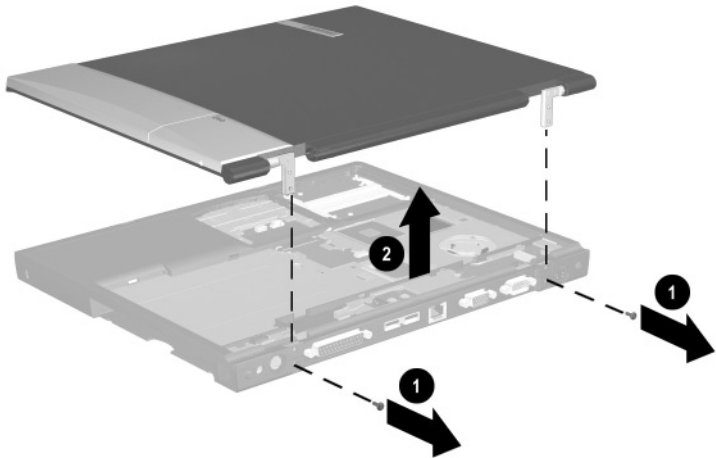

Figure 5-20. Removing the Display
9. Remove the two TM2.5 × 7.0 screws ❶ that secure the display to the base enclosure (Figure 5-20).
10. Lift the display straight up and remove it from the base enclosure ❷.